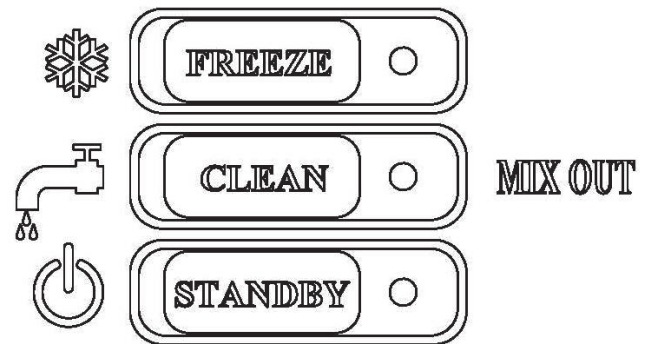

Fig. 26
5. Push the word "**CLEAN**" (Fig. 26) and let the unit agitate for approximately three to five minutes. **NOTE: The buttons must be pushed and held in for 2 seconds to operate. This prevents mode changes from accidental contact.**